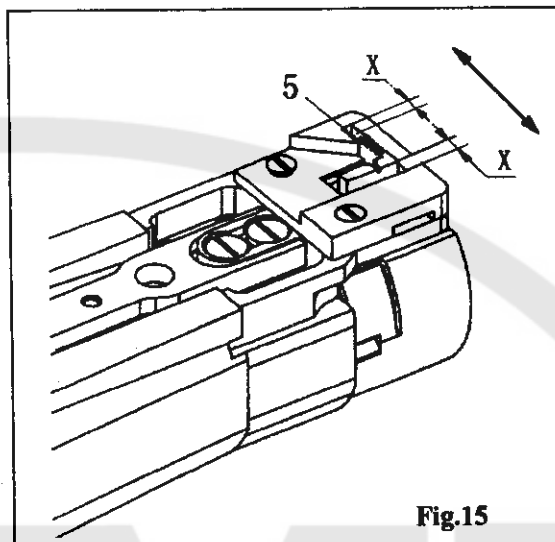

Fig.15
(2) Positioning the feed dog in the direction of sewing (Fig.15 Fig16)